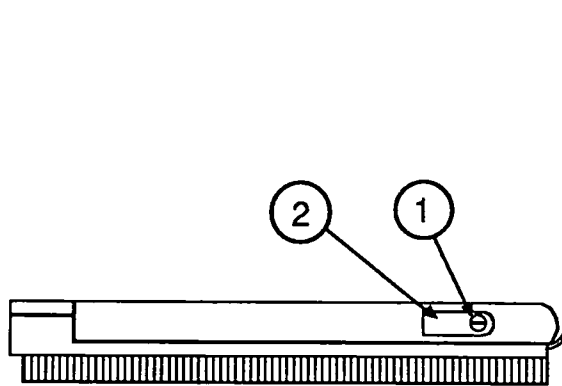

FIGURE 6
- Using a large flat-blade screwdriver or a coin, unscrew (counterclockwise) the latch (Figure 6, #1) on the side door (Figure 6, #2) on the right side of the scanner.